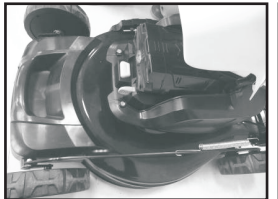

Fig.6A
1. Lift and hold up the battery door (Fig.6A)